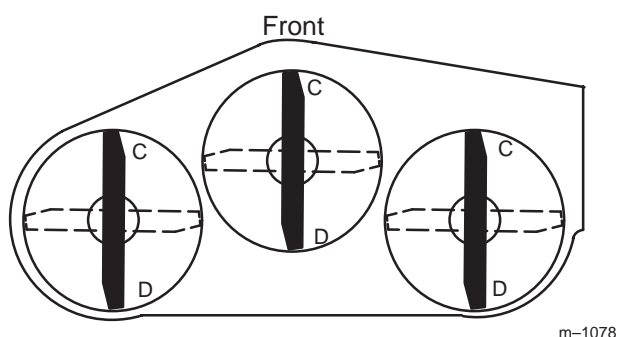
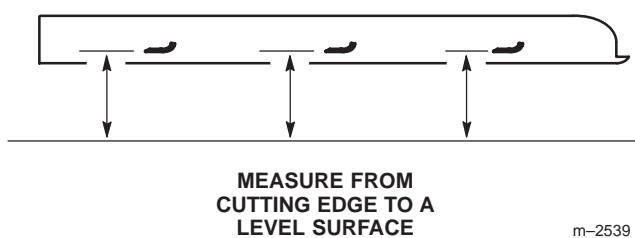

Figure 54
Figure 55
- Position one blade front-to-rear (Fig. 54). Measure at **C** and **D** locations (Fig. 54) from a level surface to the cutting edge of the blade tips (Fig. 55).
- Position the blades front-to-rear (Fig. 54). Measure at **C** and **D** locations (Fig. 54) from a level surface to the cutting edge of the blades (Fig. 55).